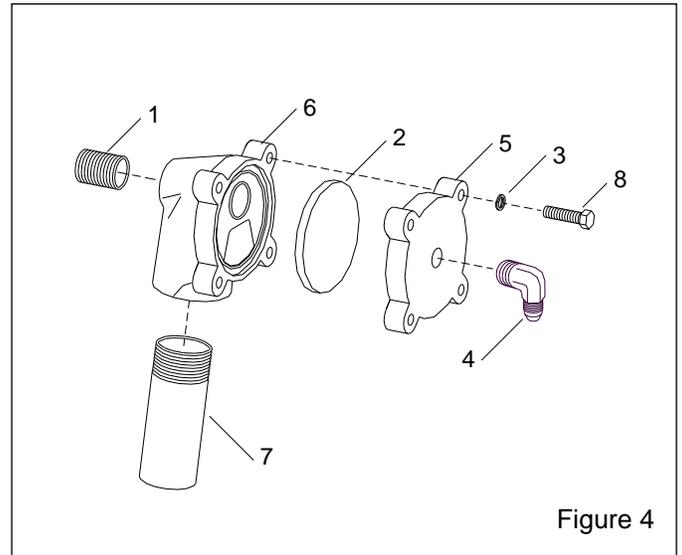

Figure 4
### 5.2 Diaphragm Outlet Valve, Ref. Figure 4
**7.4 1/2" Diaphragm Outlet Valve Figure 4**